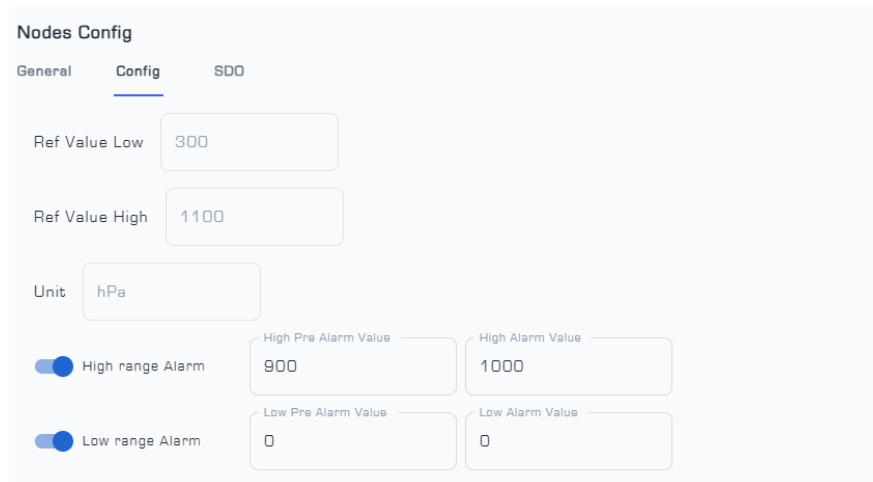

Figure 6: Config Menu from Nodes Config page
- As shown in Figure 6, the Node's alarm settings can be adjusted in the Config menu. The 'High Alarm Value' and 'High Pre-Alarm Value' are used to set the alarm and pre-alarm thresholds for the maximum danger level of the Node. Similarly, the 'Low Alarm Value' and 'Low Pre-Alarm Value' are used to set the alarm and pre-alarm thresholds for the minimum danger level of the Node.